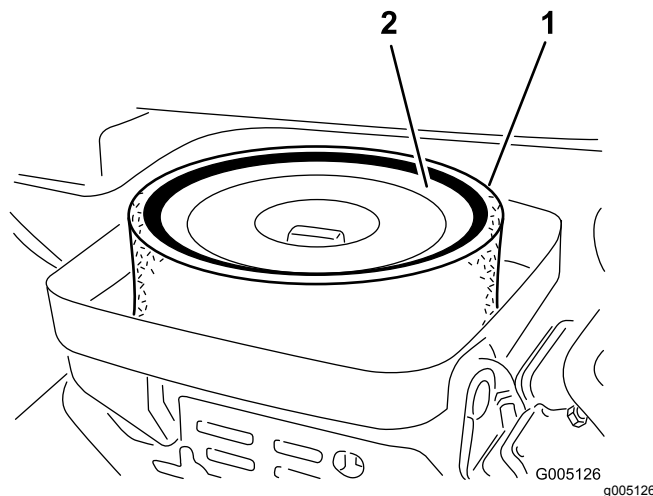

Figure 26
3. Remove the wing nut securing the elements to the air-cleaner body (Figure 26).
4. If the foam element is dirty, remove it from the paper element (Figure 26). Clean it thoroughly, as follows: